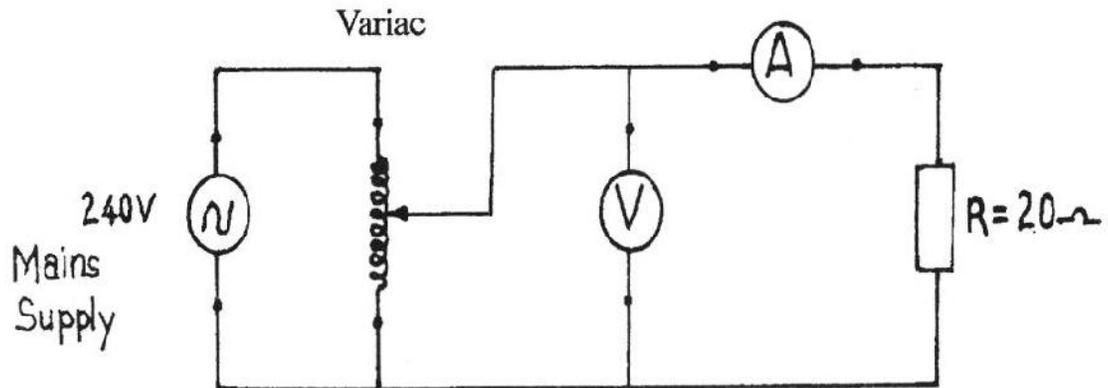

Fig.1
Figure 1 is a series RLC circuit. Calculate the:
- Connect the circuit as shown in Figure 1.